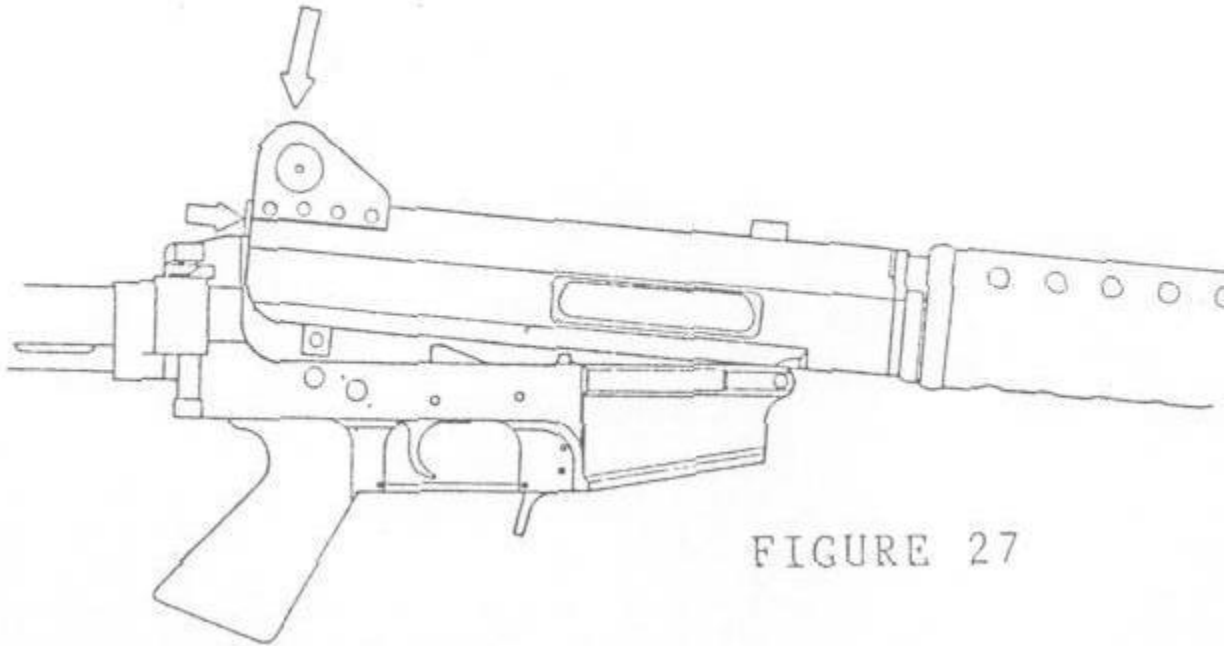

FIGURE 27
23. Push the end of the recoil spring guide and captive recoil spring into the upper receiver to clear the lower receiver during the downward pivot to engage the rear receiver pin. (See Figure 27)